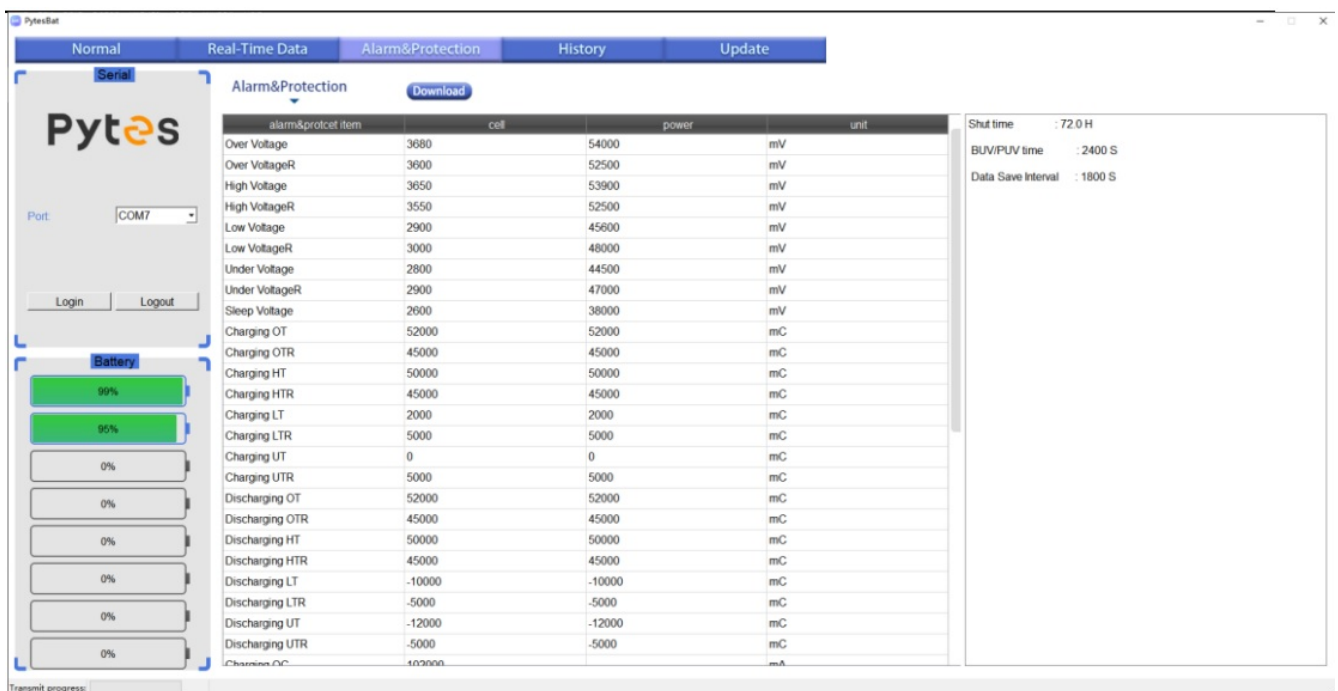

Figure 7
8. Alarm&Protection (Figure 7)